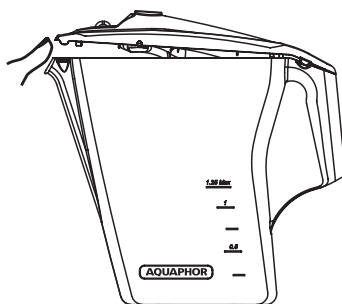

Figure 11a
### Removing the cover of the collection bowl (fig. 11a, 11b)
- Pull the front of the cover (in the nozzle) upward to form the small gap between the cover and the machine as shown in (fig. 11a).